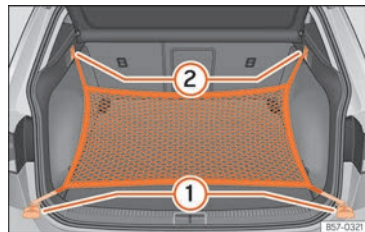

Fig. 174 In the luggage compartment: rings ① and hooks ② for attaching the net bag.
- Secure the short net hooks to the fastening rings >>> Fig. 174 ① >>> ⚠. The bag zip should be facing upwards.
- Secure the straps in the bag hooks ②.